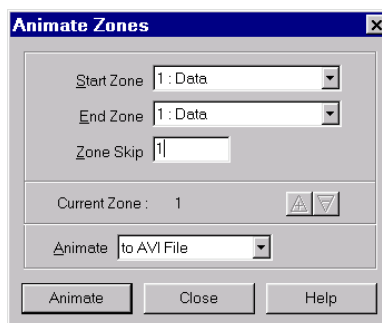

Figure 29-8. The Animate Zones dialog.
1. From the Tools menu, choose Animate, then choose Zones. The Animate Zones dialog appears as shown in Figure 29-8.